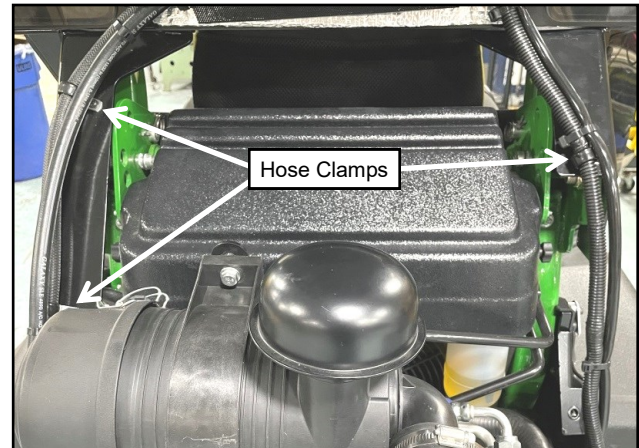

Fig. 2.26 (Install Hose Clamps on R.O.P.S Brackets)
2.26 Secure the larger AC hose and the wire harness to the ROPS brackets using p-clamps as shown in Figure 2.26.